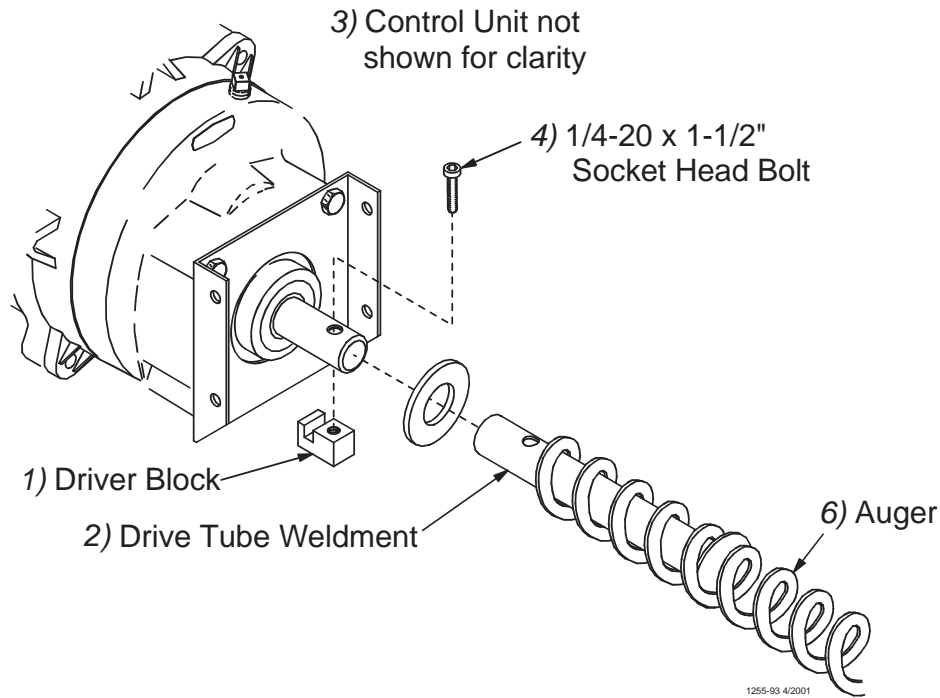

Figure 29. Auger Driver Components
4. Slide the Drive Tube and flat washer over the output shaft on the Power Unit, as shown in **Figure 29**.
6. Turn the Drive Tube Weldment into the auger, then attach to the output shaft of the Power Unit, as shown in **Figure 29**. Use the Driver Block to secure the auger to the Output Shaft.